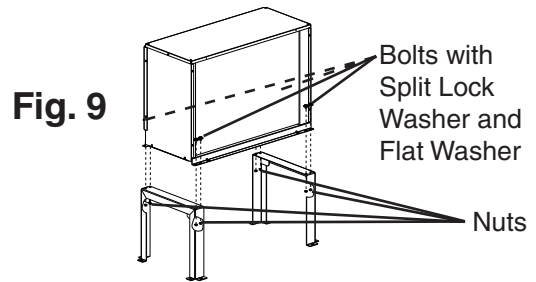

Fig. 9
- 1) Secure the legs to the remote condenser unit with the 8 bolts and nuts provided. See Fig. 9.